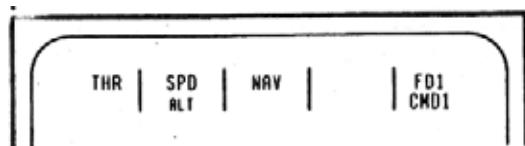

Figure 2-98
1. Manually - through the FCU, an immediate climb/descent is initiated by selecting the desired altitude in the ALT SEL window, and either pulling the set knob or pressing the LVL/CH P/B to engage the LVL CHANGE mode. Pressing the LVL/CH P/B also disengages PROFILE, however, if PROFILE is-engaged, pulling the set knob does not disengage it, rather it initiates an immediate climb/descent to the altitude selected on the FCU, except in cases where a STEP CLIMB is in the vertical profile, or if aircraft PPOS is before the T/D point - pulling the set knob in these cases arms P CLB or P DES BLUE. V/S mode may also be utilized, and may be more desirable if the altitude change is only 1000 to 3000 feet. Regardless of the mode selection, e.g., in a climb, either PROFILE, LVL CHANGE, or V/S engages, CL is annunciated on the TRP - climb power is applied by the ATS, THR/SPD/NAV GREEN and ALT BLUE is displayed on the FMA, if LVL CHANGE was engaged (see Figure 2-98), and the A/P initiates a climb to the new altitude selected in the FCU. If PROFILE is engaged, the ATS and Longitudinal engaged modes in the FMA are preceded by a P, e.g., P THR and P SPD. With PROFILE engaged, pulling the set knob also causes display of the Situational Modes IMM CLB/IMM DES, depending on the flight phase, on the F-PLN page, allowing the pilot to initiate an immediate descent if desired.